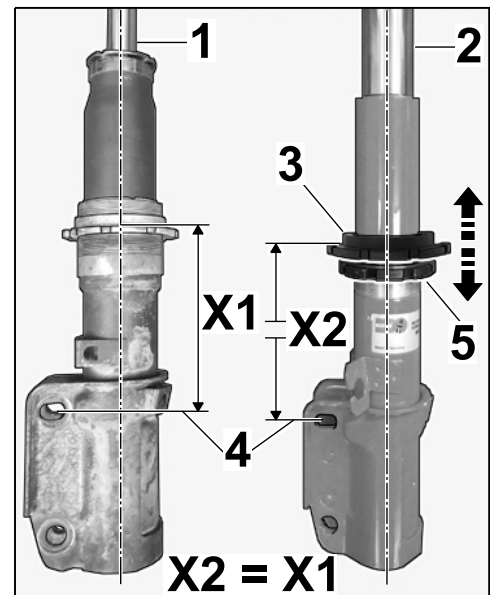

Figure 4
- 2.2 Adjust dimension X2 (top of adjusting nut/mounting point for shock absorber ⇒ *Figure 4 -X2-*) in accordance with dimension X1 (standard spring strut).